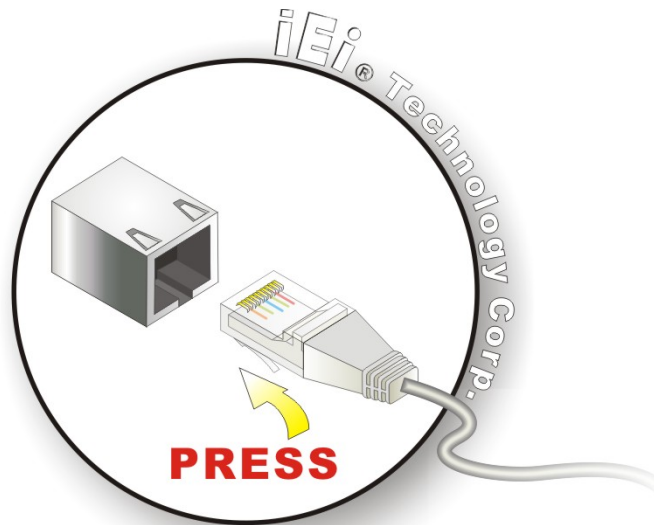

Figure 4-13: LAN Connection
Step 2: **Align the connectors.** Align the RJ-45 connector on the LAN cable with one of the RJ-45 connectors on the PCIE-G41A2. See **Figure 4-13**.